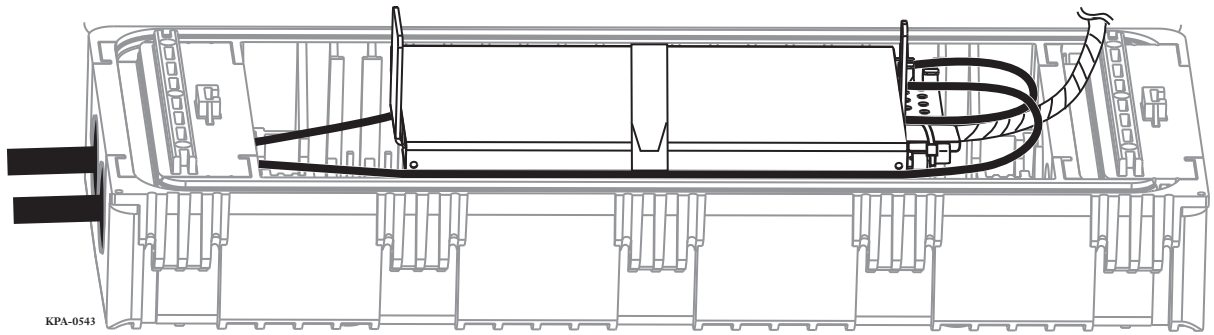

Figure 43
- Step 4:** Rotate the tray stacker down. Secure the tray(s) in the stacker with the hook-and-loop strap provided (Figure 43).